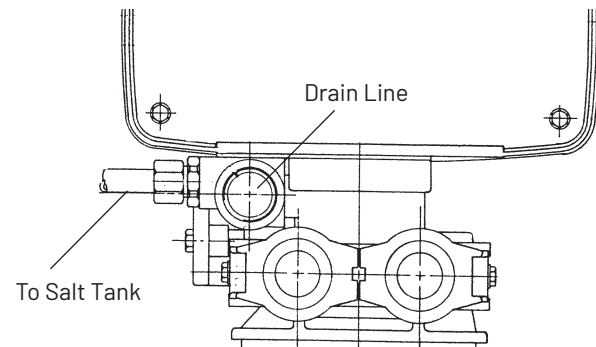

Figure 5.
1. The unit should be above and not more than 20 feet (6.1 m) from the drain. Use an appropriate adapter fitting to connect 1/2-inch (1.3 cm) plastic tubing to the drain line connection of the control valve (Figure 5).
- Locate the salt line connection on the valve (Figure 5). Push the tubing into the opening until it stops.